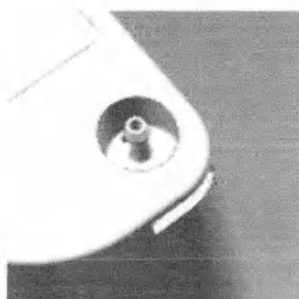

Figure 5: Cannula output opening
3. Insert special wrench (kit for filter output replacement) and turn clockwise until cannula opening is tight as shown (Figure 5).